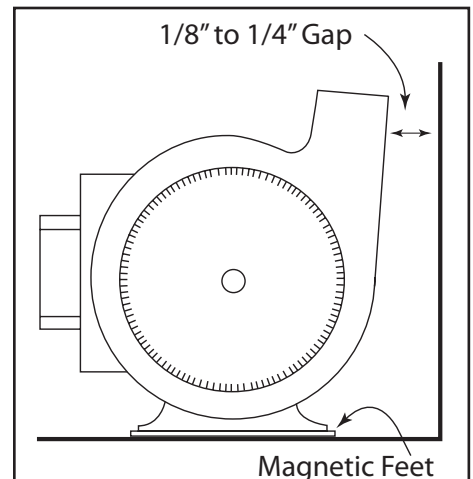

Fig. 1 Side View
4. Pull the fan housing slightly away from the metal back wall (1/8" to 1/4") of the appliance. The magnetic feet will hold the housing in place. (See Fig. 1)